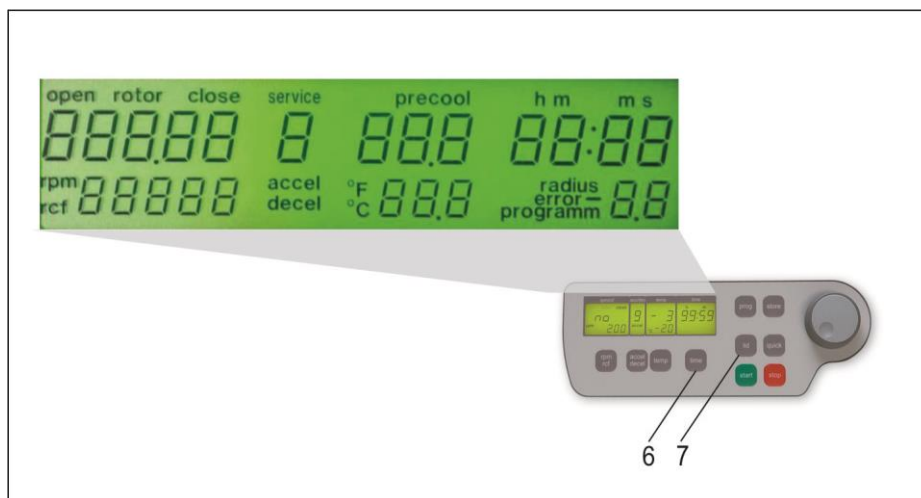

Figure 6
If the centrifuge is still turned off, press the keys "time" (6) and "lid" (7) simultaneously turning on the main switch of the centrifuge. Now release both keys. As a result, a display test is administered for approx. 5 seconds. All possible indications will appear at the same time (see Figure 6).